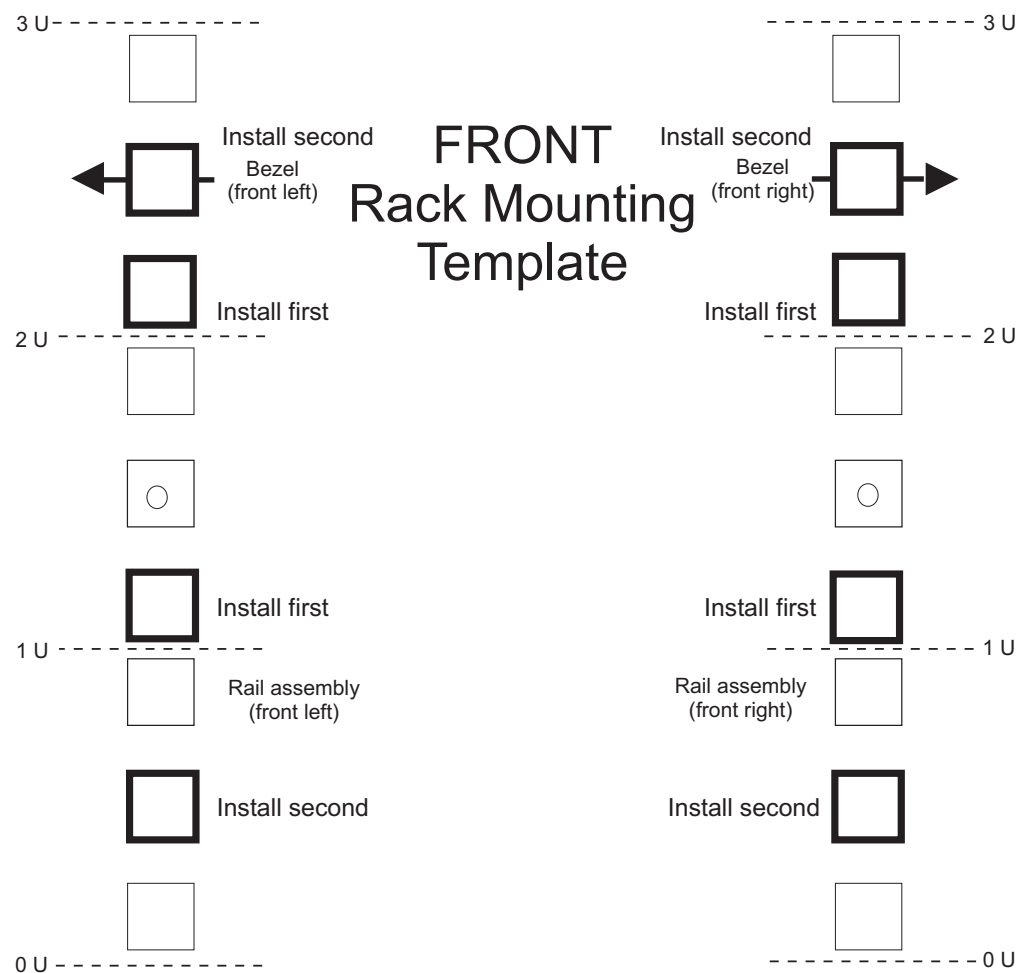
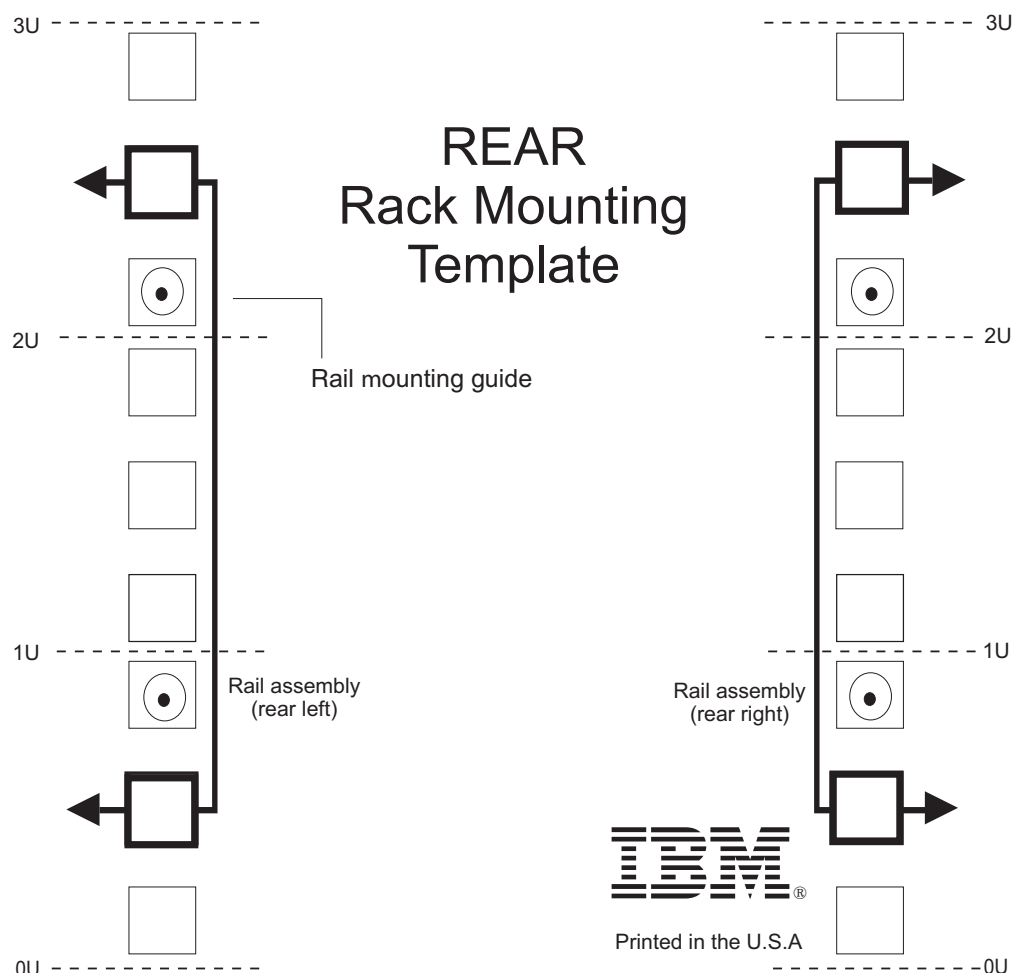

Figure 12. Front rack mounting template
Figure 13. Rear rack mounting template
Use the following templates (Figure 12 and Figure 13 on page 34) to identify the proper locations for inserting M5 screws when mounting the support rails and DS3950 storage subsystem to a rack cabinet. The locations for the M5 screws are highlighted in the templates.
**Important:** Duplicate copies of the rack mounting templates are provided in Appendix B, “Rack mounting templates,” on page 171. If you want to tear out the templates from this document, use the copies in Appendix B, “Rack mounting templates,” on page 171. Use the preceding templates (Figure 12 on page 33 and Figure 13 on page 34) to identify the proper locations for inserting M5 screws when mounting the support rails and DS3950 storage subsystem to a rack cabinet. The locations for the M5 screws are highlighted in the templates.
- The lip on the rail lines up with the bottom of the storage subsystem (the 0U boundary in Figure 13 on page 34).
**Note:** Be sure to install the screw labeled *install first* in Figure 12 on page 33.